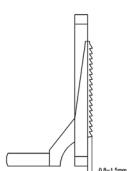
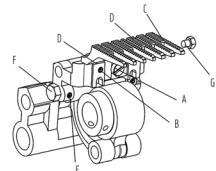

图27(Fig.27)
图28(Fig.28)
送布牙(C)升至最高点时，送布牙齿顶与针板面的距离为0.8-1.5mm，平均为1.2mm。 (图27)
送布牙的调整：(图28)
- 3.将高度固定销(D)的固定螺钉(B)松开，调整固定销直到送布牙的底部再锁紧螺钉(B)。(图28)
When feed dogs (C) move to the highest position, the distance from the tips of feed dogs to the face of Needle plate is 0.8-1.5mm. The average is 1.2mm (Fig.27). For adjustment: (Fig.28)
1. Loosen screw (A) on Feed Dog (C).
2. Move Feed Dog (C) up and/or down to meet above requirement then tighten screw (A).
3. Loosen screw (B) and move stop pin (D) upward to the bottom of Feed Dog (E), then tighten screw (B) (Fig.28)
送布牙上升至最高时应与针板平行(图27)。调整:
夹紧螺栓(F), 将螺帽(G)放松, 调整送布牙螺钉(E), 使送布牙(C)与针板平行(图28)再锁紧螺帽(G)。
When the feed dogs are at the highest position they should be parallel to Needle plate surface (Fig.27). For adjustment:
Holding screw nut (F) firmly and loosen screw (G) then to adjust screw (E) for the teeth surface of Feed Dogs ,is paralleled needle plate (Fig.28)